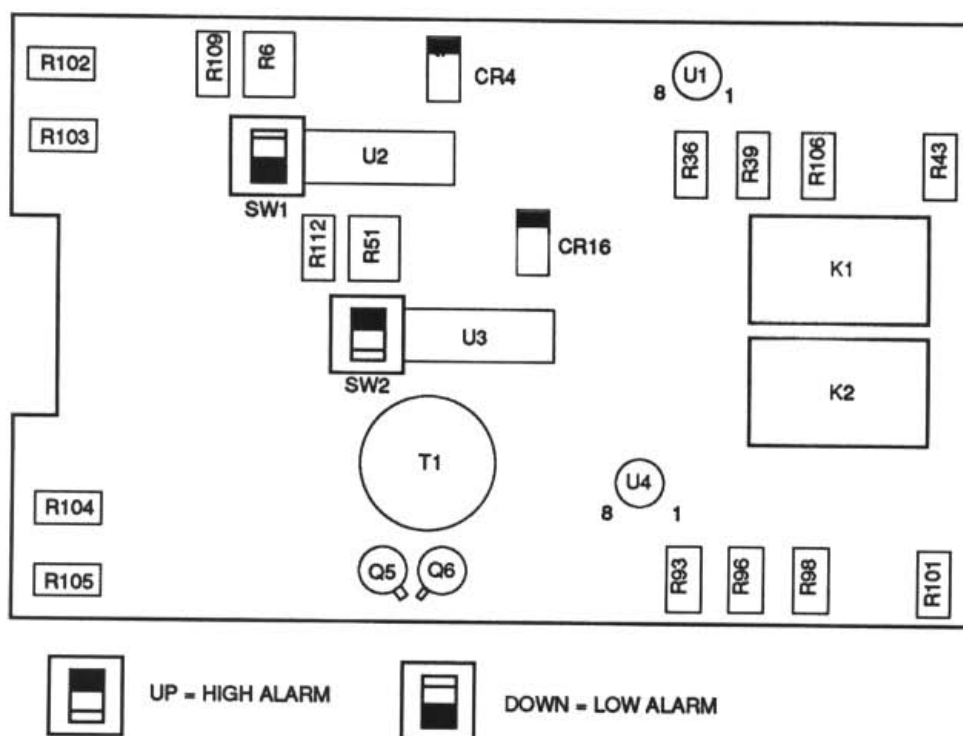

Figure 2. MVA-ED Component Locations
The MVA-ED features the Trip Point and Dead Band (optional) adjustments, and the Display Control located on the front panel of the unit. Other controls include the high- and low-alarm switches, which are located on the component side of the main PCB (see figure 2).
5. Set switch SW1 (and SW2 for dual alarms) for a high or low alarm, as required. (see figure 2)
The following is a procedure for a 20 percent dead band adjustment (unit must be setup as described in the previous calibration procedure). See figures 2 and 3.